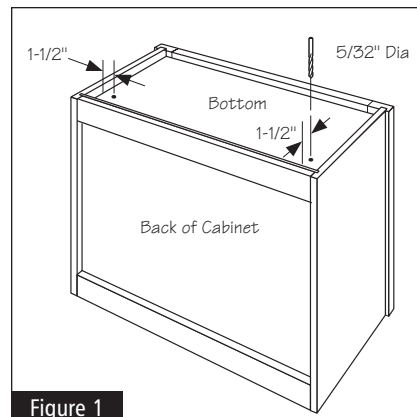

Figure 1
- 1 Drill two 5/32" holes through the bottom of the Cabinet. The holes should be drilled 1-1/2" in from each side of the cabinet and 1-1/2" in from the back of the Cabinet. See Figure 1.